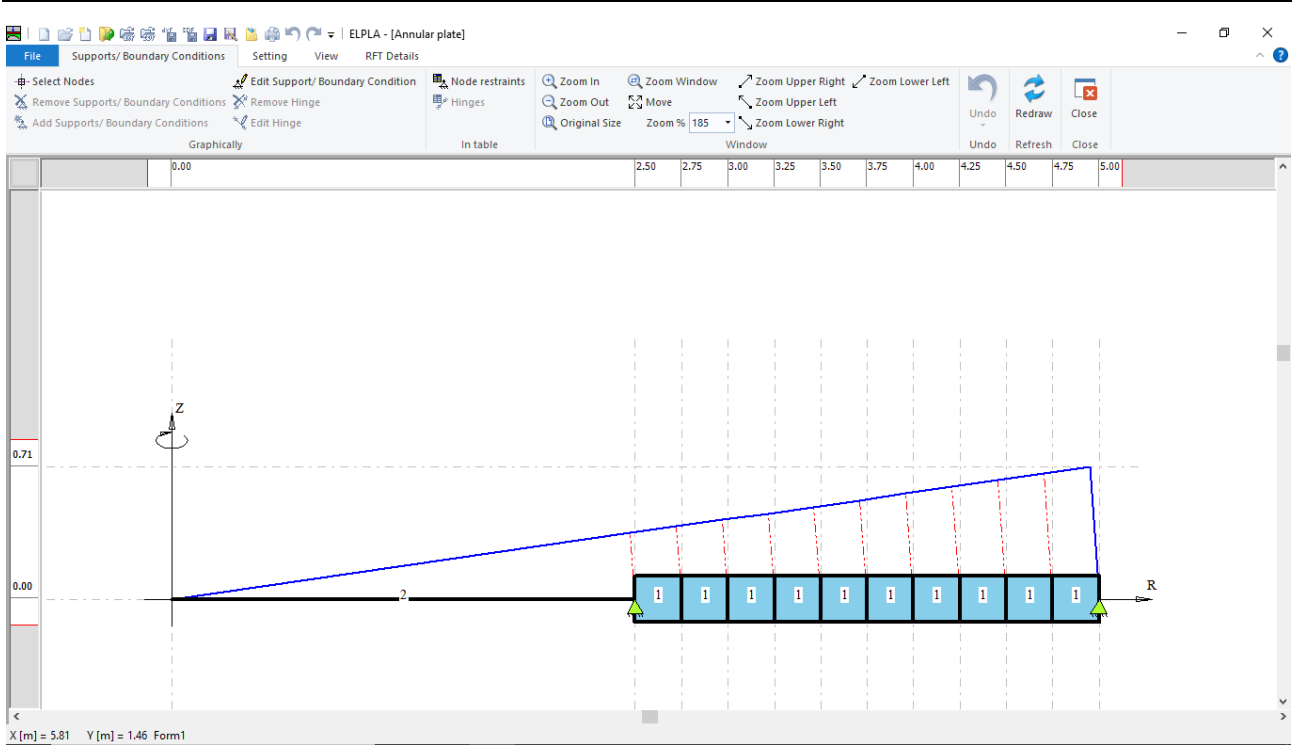

Figure 2.21 Supports on the screen
- Choose "Save " command from "File" menu in Figure 2.21 to save the data of supports
- Choose "Close" command from "File" menu in Figure 2.21 to close the "Supports/ Boundary conditions" window and return to the main window